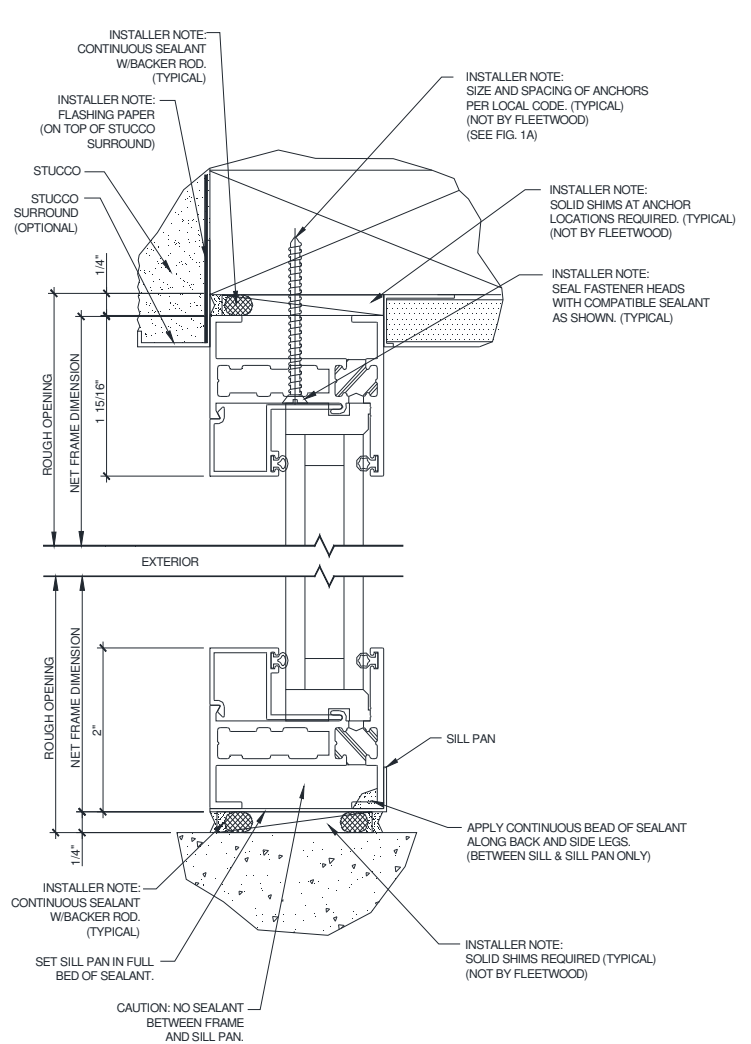

Figure 9:
- Apply a continuous bead of sealant along the back and side legs between the sill and sill pan (Figure 9, page 7) and insert the frame into the opening. Cross-measure and adjust as necessary to achieve a plumb square and level condition, as well as an even reveal around the framed opening. Shim with non-porous, non-absorbent, inorganic shims where needed. Seal all fastener heads with compatible sealant. (Only drill holes through Sill as required for design load)
- Align the corner post with the installed window as shown in Figure 9. Apply a continuous bead of sealant between the corner post and the frame.
- Align the second window with the corner post and the remaining opening as shown in Figure 9. Fix window to the structure per the instructions in Section IV. Apply a continuous bead of sealant between the corner post and the frame of the second window.